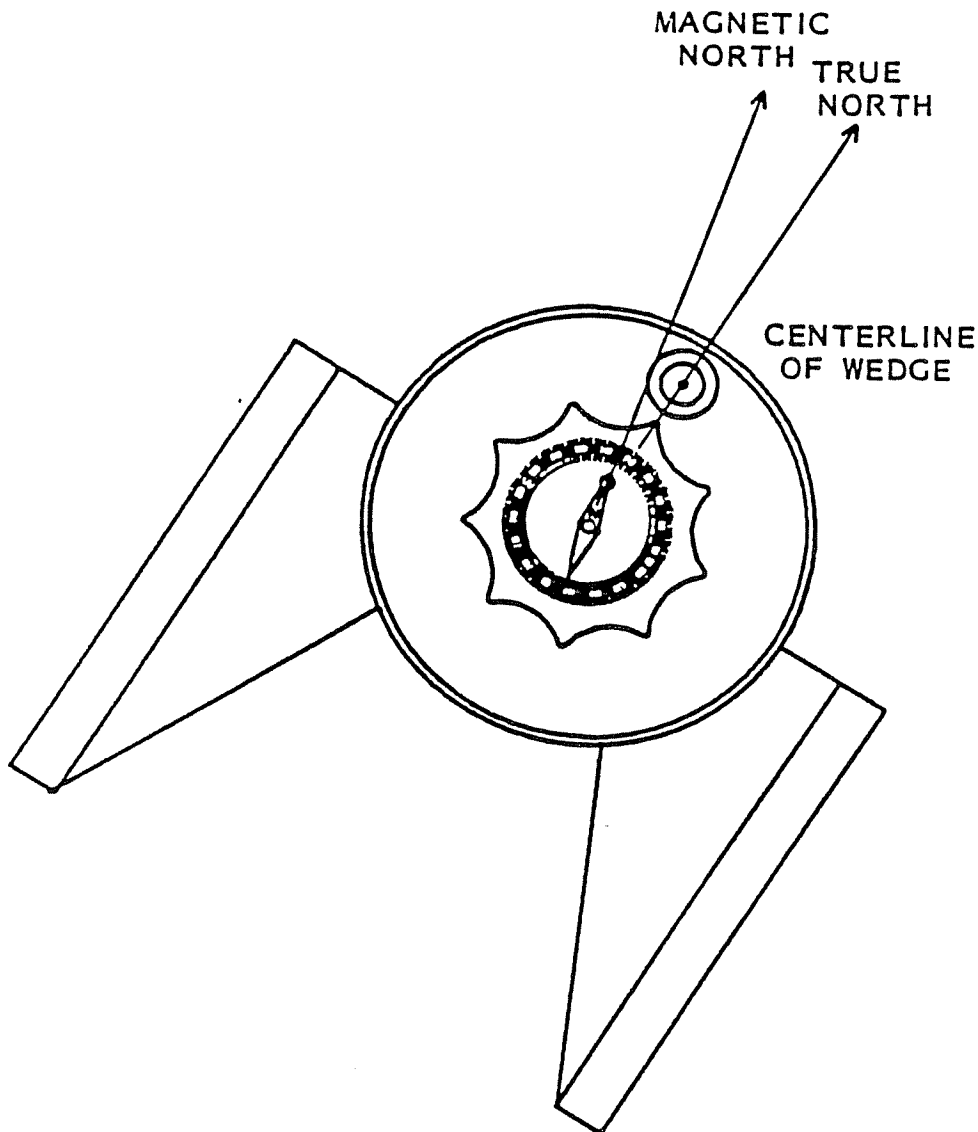

Fig. 7: Equatorial Wedge and Magnetic Compass
3. By rotating the Equatorial Wedge in azimuth, position the point of the knob/compass so that it points directly to the center of the bubble level (Fig. 7.) The centerline of the Equatorial Wedge now falls directly on the true north line.